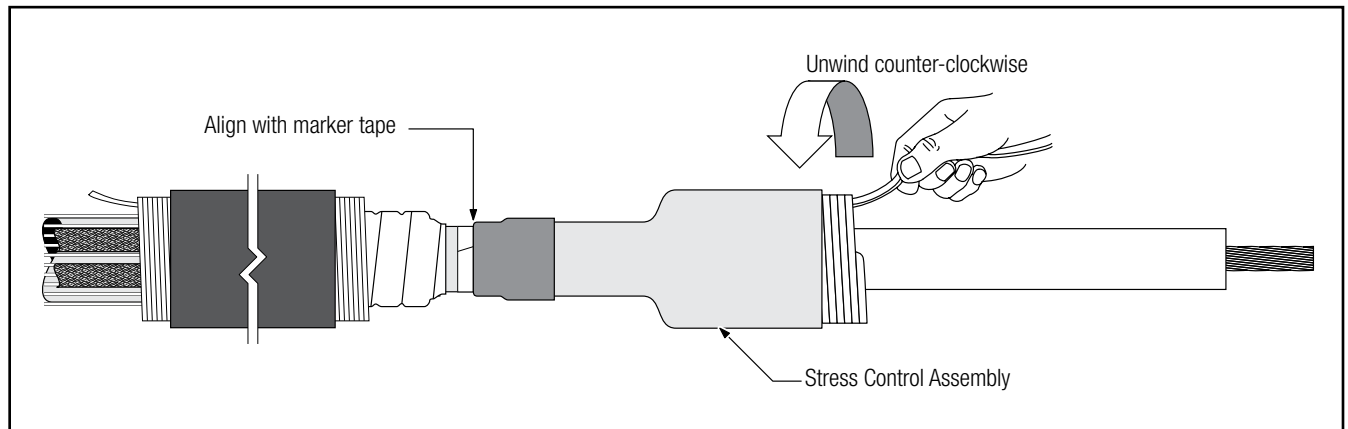

Figure 23
- 6.4 Select the Stress Control Assembly (medium length tubular assembly on white core) from the kit. Slide the Stress Control Assembly over the cable with the loose core end toward the cable end. Align the Stress Control Assembly Tube (not the core) with the marker tape, and remove the core by pulling the loose end while unwinding counter-clockwise. (Figure 23)